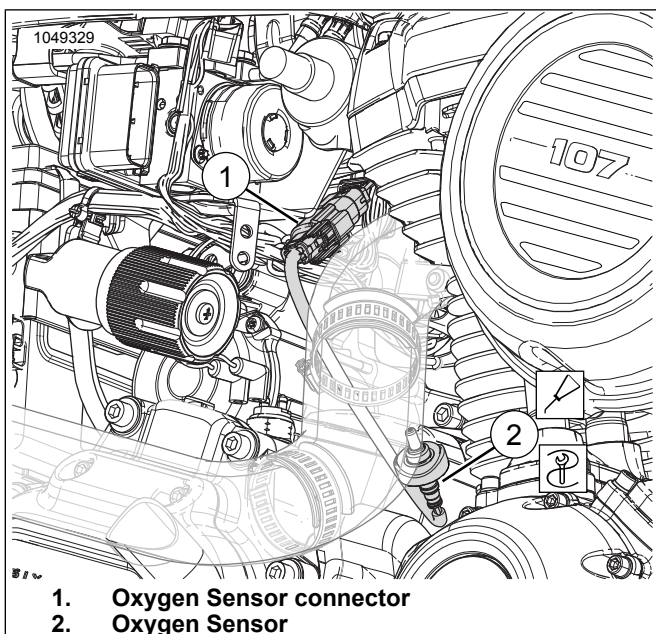

Figure 20. Rear Oxygen Sensor
See Figure 20. Disconnect rear oxygen sensor connector (1) from main harness.